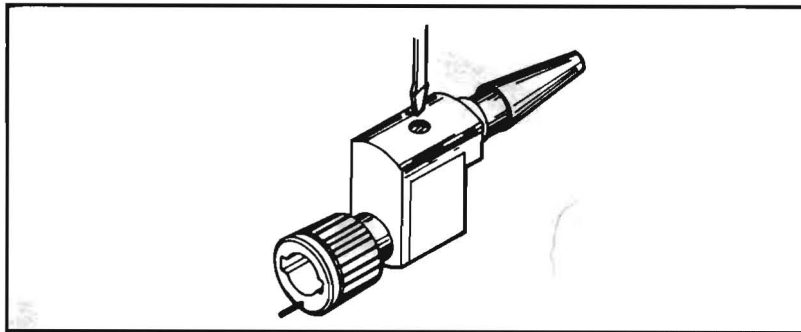

Fig. 4 Compensation adjustment location.
3. Adjust probe compensation for optimum flat top on display (see Fig. 4).